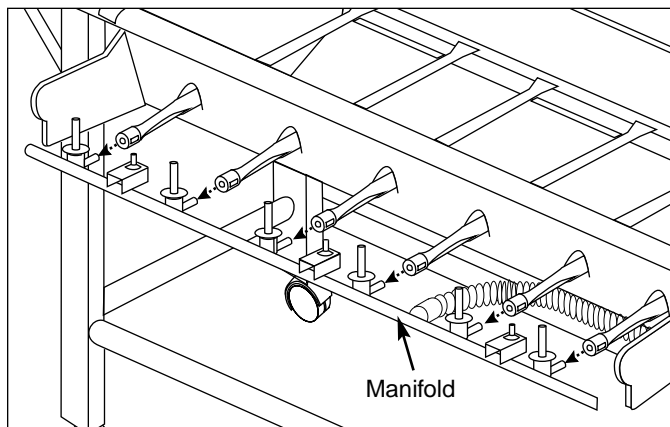

**Figure 11**
7. Disconnect white and black wire from each igniter. Figure 11.